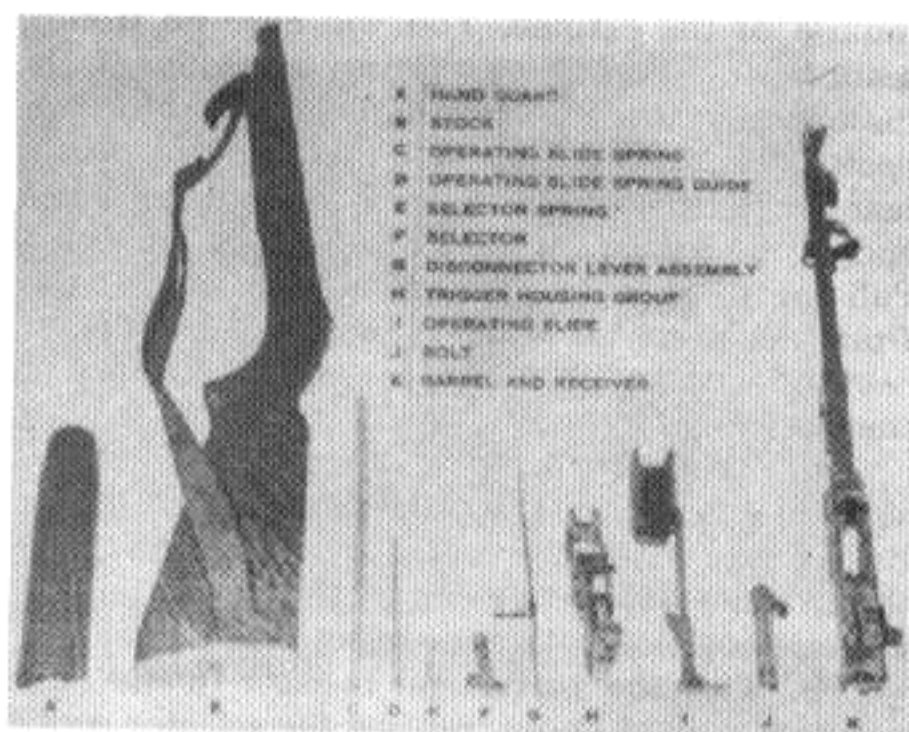

Figure 14. Lay out of parts disassembled during field stripping.
*l.* In Figure 14, you see the disassembled parts of the carbine laid out in the correct order.